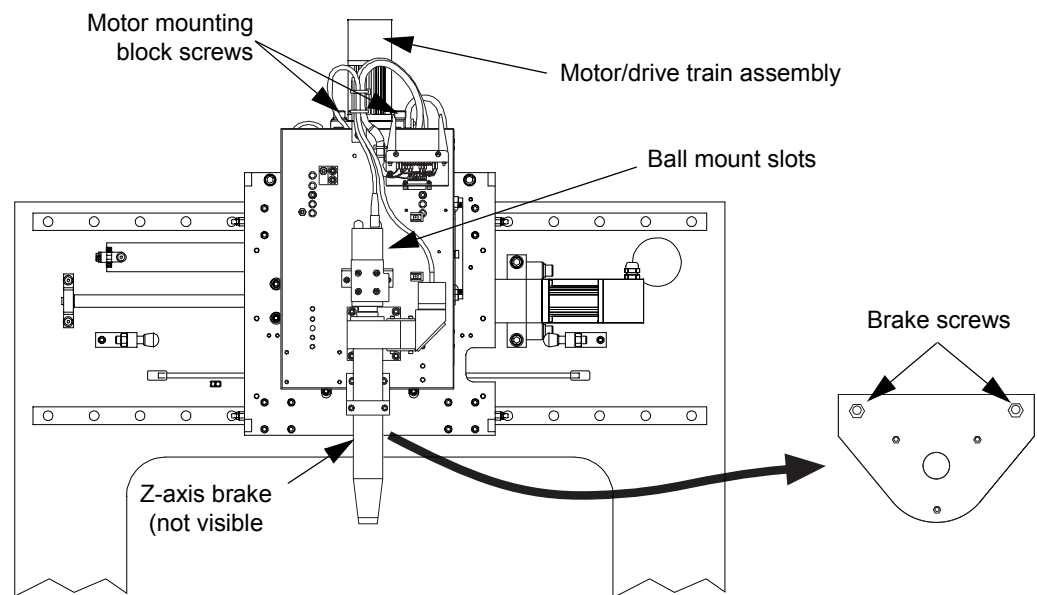

Figure 9-17 Removing the Z Leadscrew
3. Using a 1/8 Allen wrench, remove the two screws that hold the brake assembly in place. These screws are located under the Z-axis stage; see Figure 9-17. The brake assembly will fall away from the Z-axis leadscrew and will hang freely by the two motor wires.